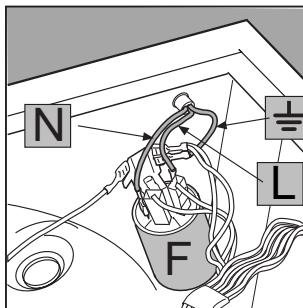

Fig. 4
- Disconnect the wires from the radio interference suppressor **F** [fig. 4] noting as to their position (**Blue=N** wire; **Brown=L** wire) leaving the earth wire until last  $\pm$ .